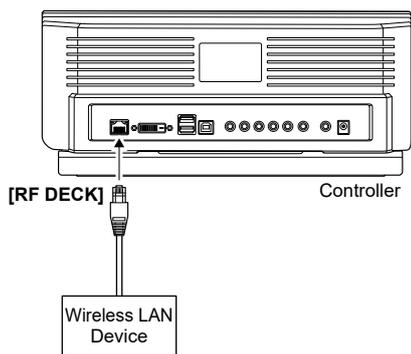

Figure 09-33. Connecting the Wireless LAN device
- 9). Connect a wireless LAN device to the [RF DECK] port of the Controller. (Figure 09-33)